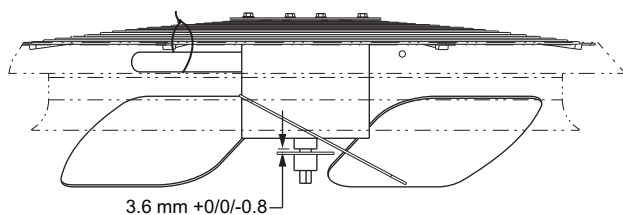

Fig. 34 — Outdoor Fan Blade Position
4. Adjust fan height as shown in Fig. 34.